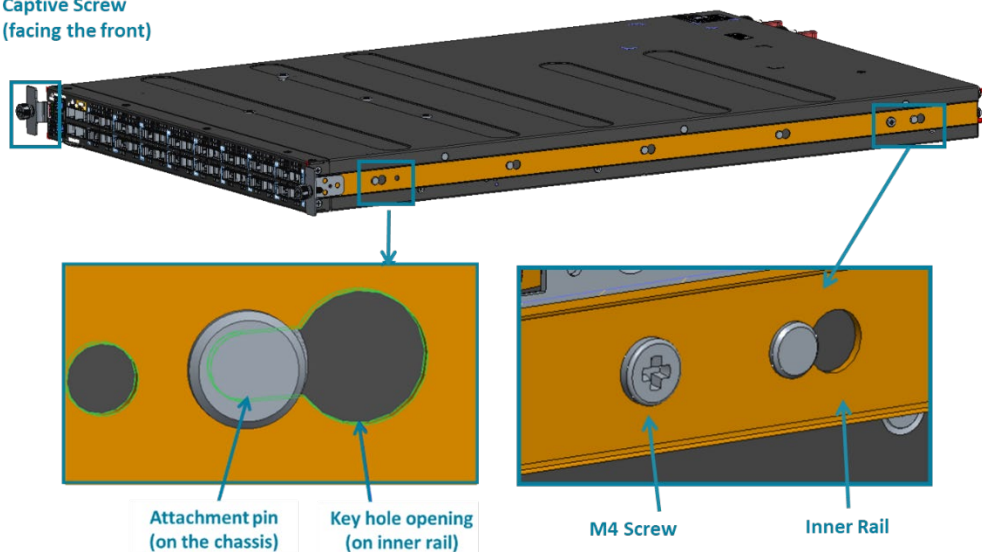

Figure 14.
- 2.2 After the attachment pins are secured to the inner rail, lock the inner rail to the chassis using two M4 screws (one on each chassis side). See Figure 14.